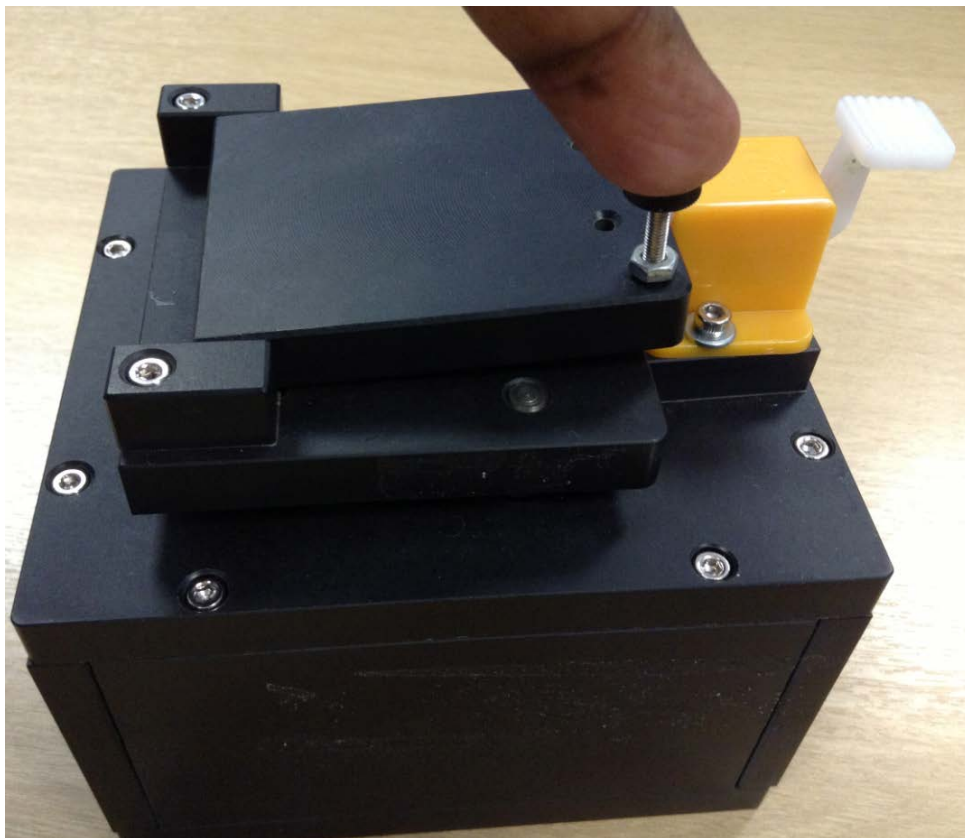

Figure 3: BL600 latched in place on programming jig
3. Close the cover and gently press down the lever until the latch is in place (Figure 3).